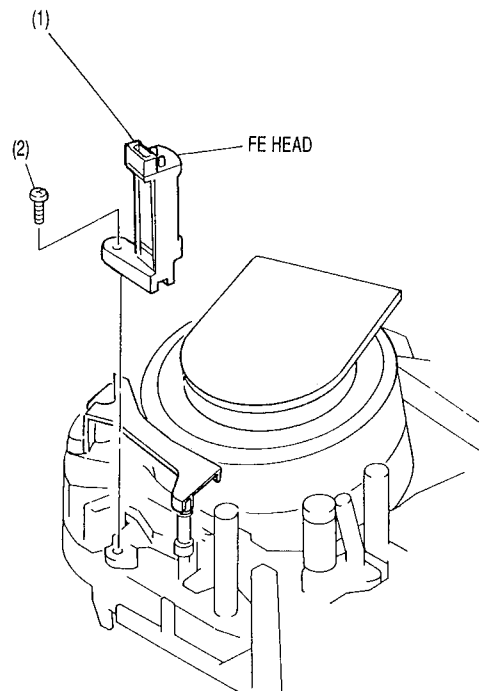

Fig. 3-8
- 1) Disconnect the connector (1). (See Fig. 3-8)
- 2) Remove 1 screws (2).